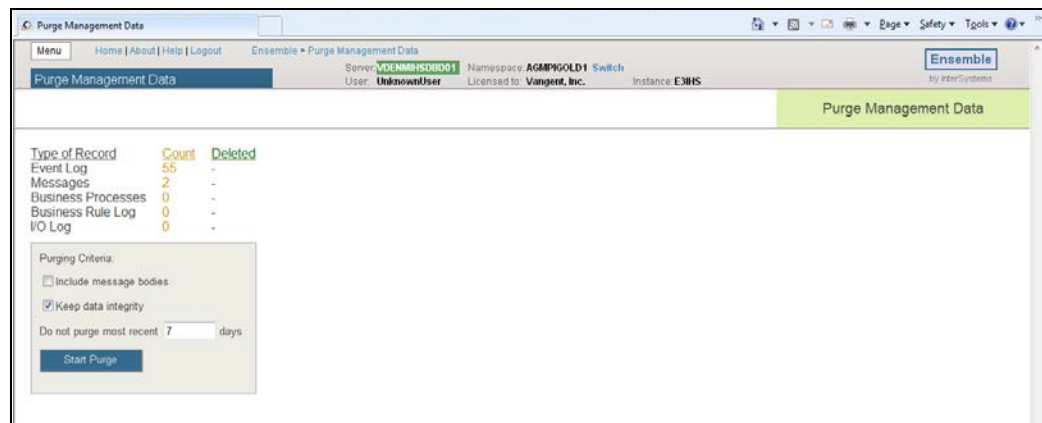

Figure 5-1: **Purge Management Data** page
2. On the Manage sub-menu, click **Purge Management Data** to display the **Purge Management Data** page, as shown in Figure 5-1.